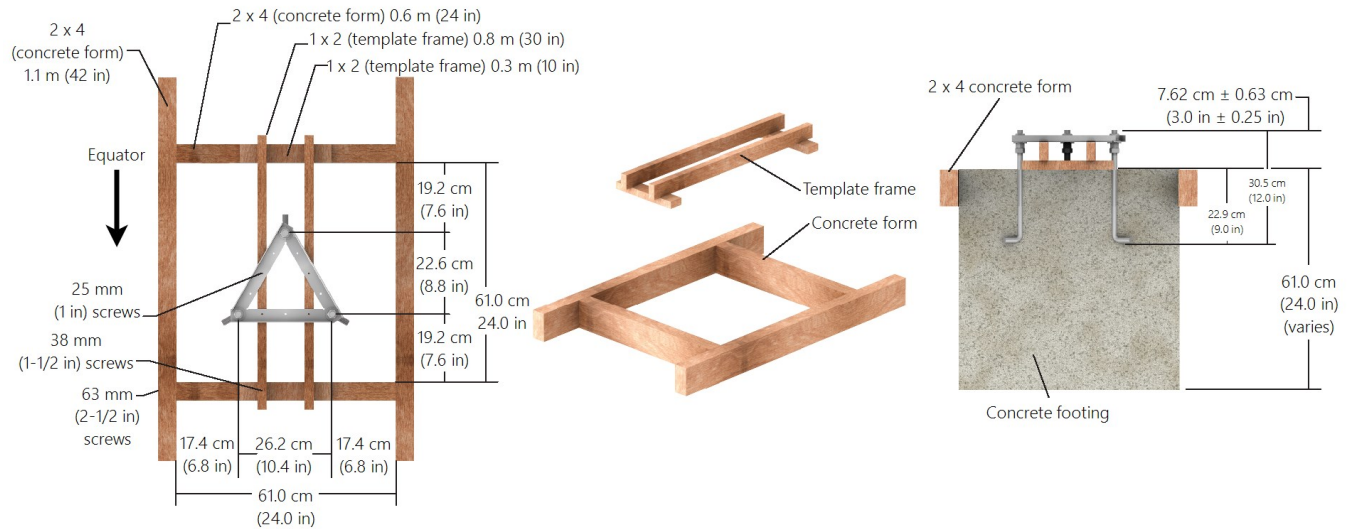

FIGURE 7-3. Positioning the J-bolt in concrete
- Construct the concrete form shown in FIGURE 7-3 (p. 11) out of 2 x 4 nominal lumber 61 cm (24 in) square (inside dimensions). Construct the template frame out of 1 x 2 nominal lumber and set it aside. Center the form over the hole and drive a stake at both ends of each 1.1 m (42 in) piece of the form. Level the form by driving nails through the stakes and into the form while holding the form level.
- Fill the hole and form with concrete. Screed the concrete level with the top of the form as shown in FIGURE 7-3 (p. 11). Smooth the concrete around the three J-bolts and allow the concrete to cure.